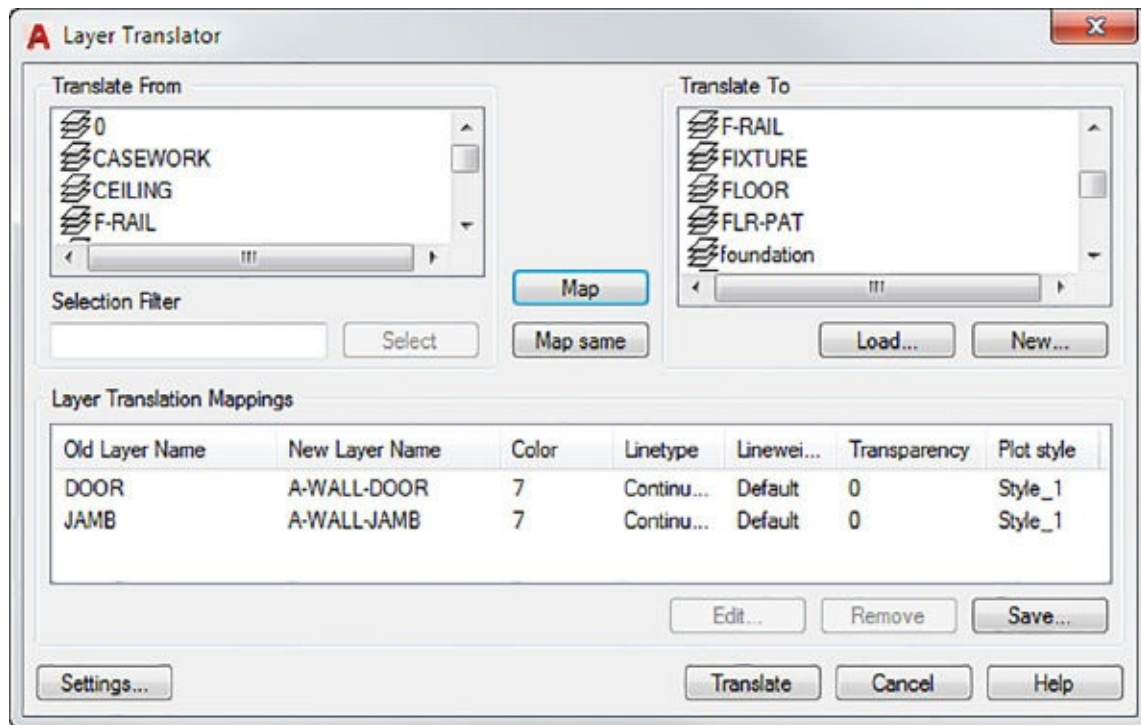

FIGURE 25.35 The Layer Translator dialog box
3. Select a layer name in the Translate From list, and then select the layer with the settings that you want to use from the Translate To list box. After you've made your two selections, click the Map button in the middle of the dialog box. An item in the Layer Translation Mappings group shows you the old and new layer names and the layer settings for the conversion (see Figure 25.35).